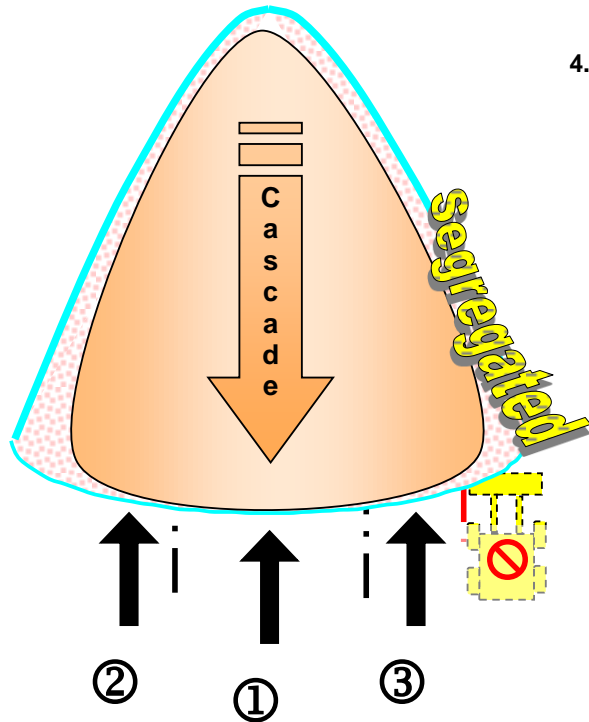

Figure 7
4. Continue to remove material from across the entire face, as necessary, to cause material from the top of the pile to cascade down to the bottom. (See Fig. 7)
5. Select location of sampling points - middle, left and right. (See Fig. 7)